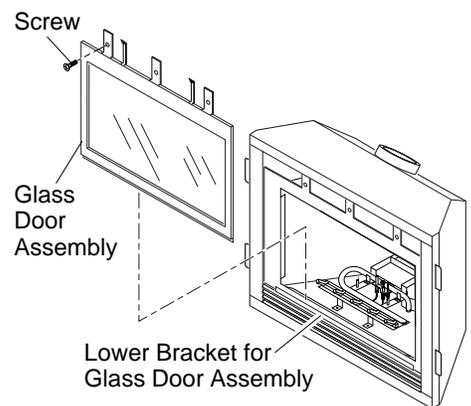

Figure 48 - Removing/Replacing Glass Door
- Grasp door by both sides and ease it upward off of the lower bracket (see Figure 48).